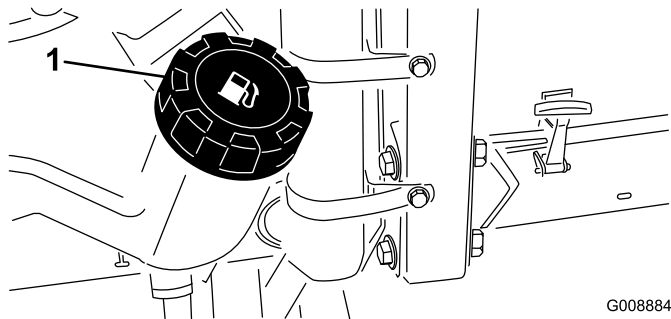

Figure 19
1. Clean the area around the fuel tank cap (Figure 19).